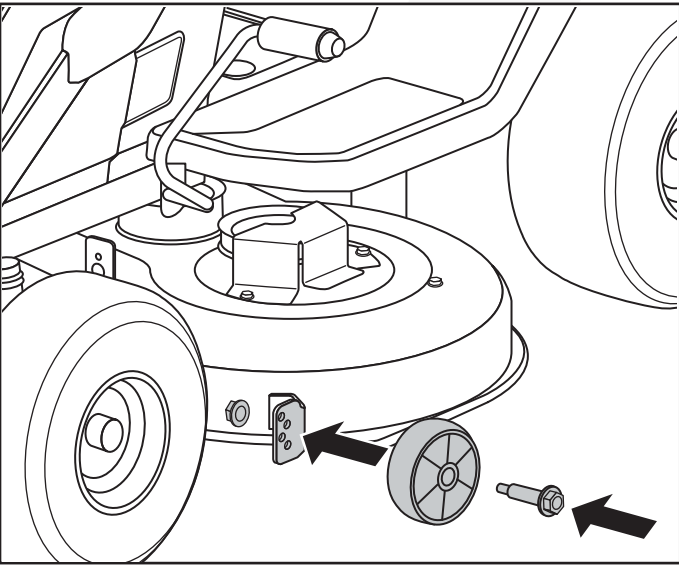

Fig. 6
- 1. Secure the left anti-scalp wheel with the bolt and nut provided to a torque of 22-26 ft-lbs. (Fig. 6)